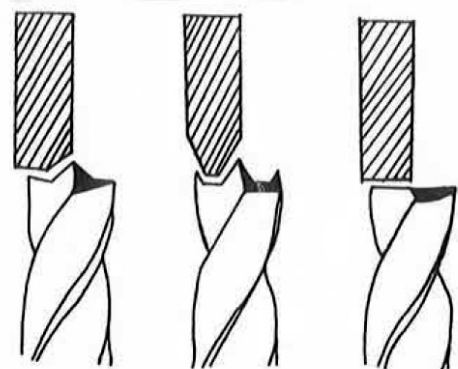

Fig.17
5. Use the longitudinal feed of the grinding wheel and the cross feed of the slide rest to control the feeding of sharpening the cutting edge. After taking a light cut, change to the opposite number of (No.15) and grind it again until there is a small flat on the cutting edge. Form the wheel to suit the profile desired. (Fig.17)